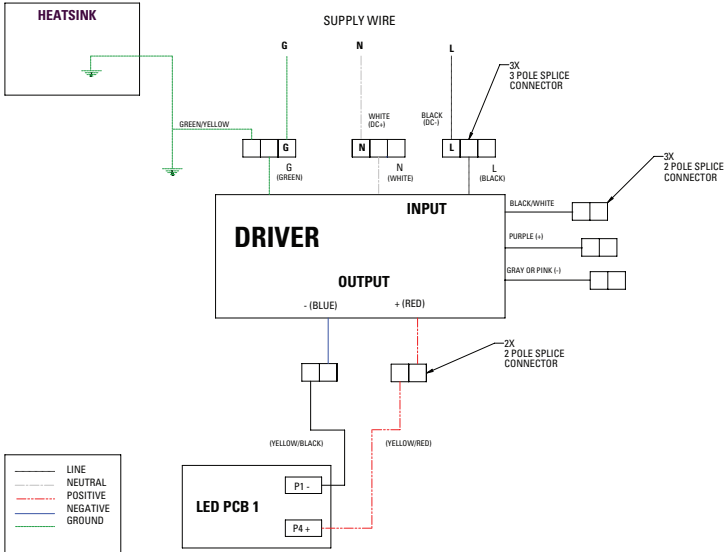

Figure 2
2. All components in the fixture are pre-wired so only line in, neutral and ground need to be connected in the fixture using the supplied Wago connectors, using methods that comply with all applicable codes. See Figure 2 for wiring diagram.